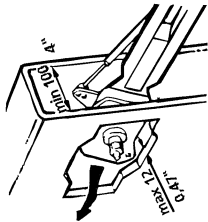

Fig. 10
- Remove the lever and pull out the mechanism through the hole. (Fig. 10)